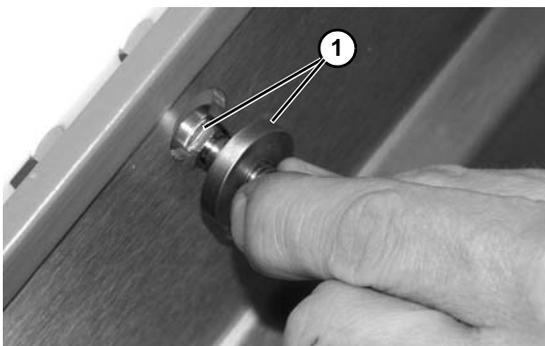

Figure 37
1. Insert carriage bolts with spacers (**Figure 37, item 1**) into slotted holes in conveyor side.